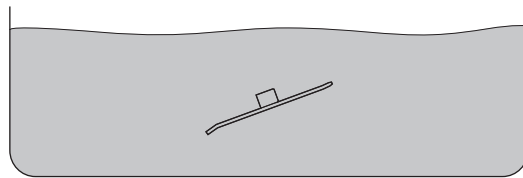

Fig. 14
- 2 Immerse the product in the cleaning tank for 20 - 30 min (Fig. 14).